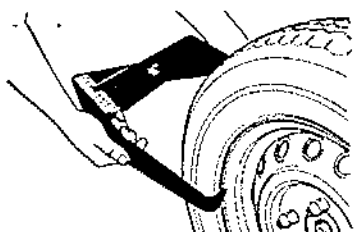

Figure 1
- The width is measured with the wheel calipers provided (see FIG. 1)